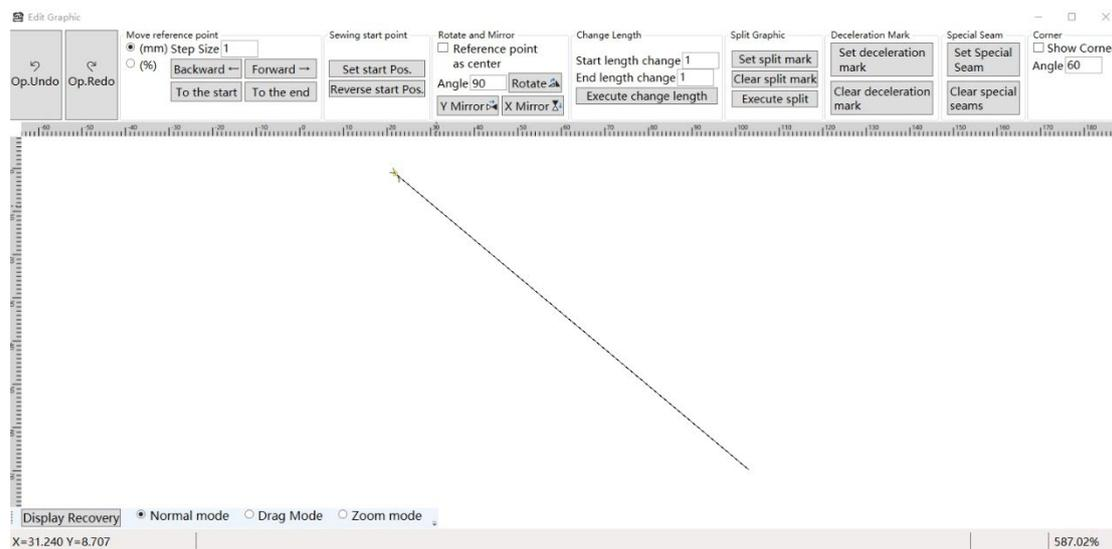

Fig. 5.6 Single Graphic Editing
There are three ways to enter this page for editing a single graphic: ① Select a graphic on the main page and click the "Single Graphic Edit" button. ② In the graphic list on the main page, double-click the graphic name. ③ After selecting a graphic on the batch editing page, click the "Single Graphic Edit" button. The single graphic editing page is shown in Fig. 5.6 below.